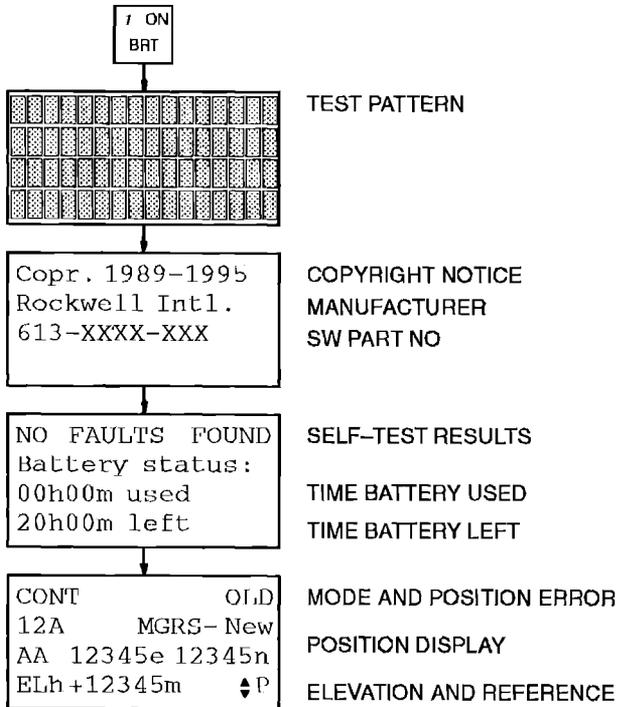

Figure 3-1 ON Display Sequence.
3.2.1 Turning the Unit ON. The PLGR is turned on by pressing the *ON/BRT* key. When turned on, the sequence of displays comes up as shown in Figure 3-1.